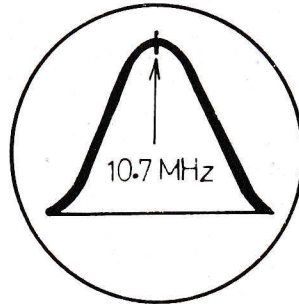

Fig. 6
- b. Align the L7,17,19 so that the maximum sensitivity and symmetrical wave mode will be obtained setting the marker 10.7MHz on the peak. (Refer to Fig. 6).